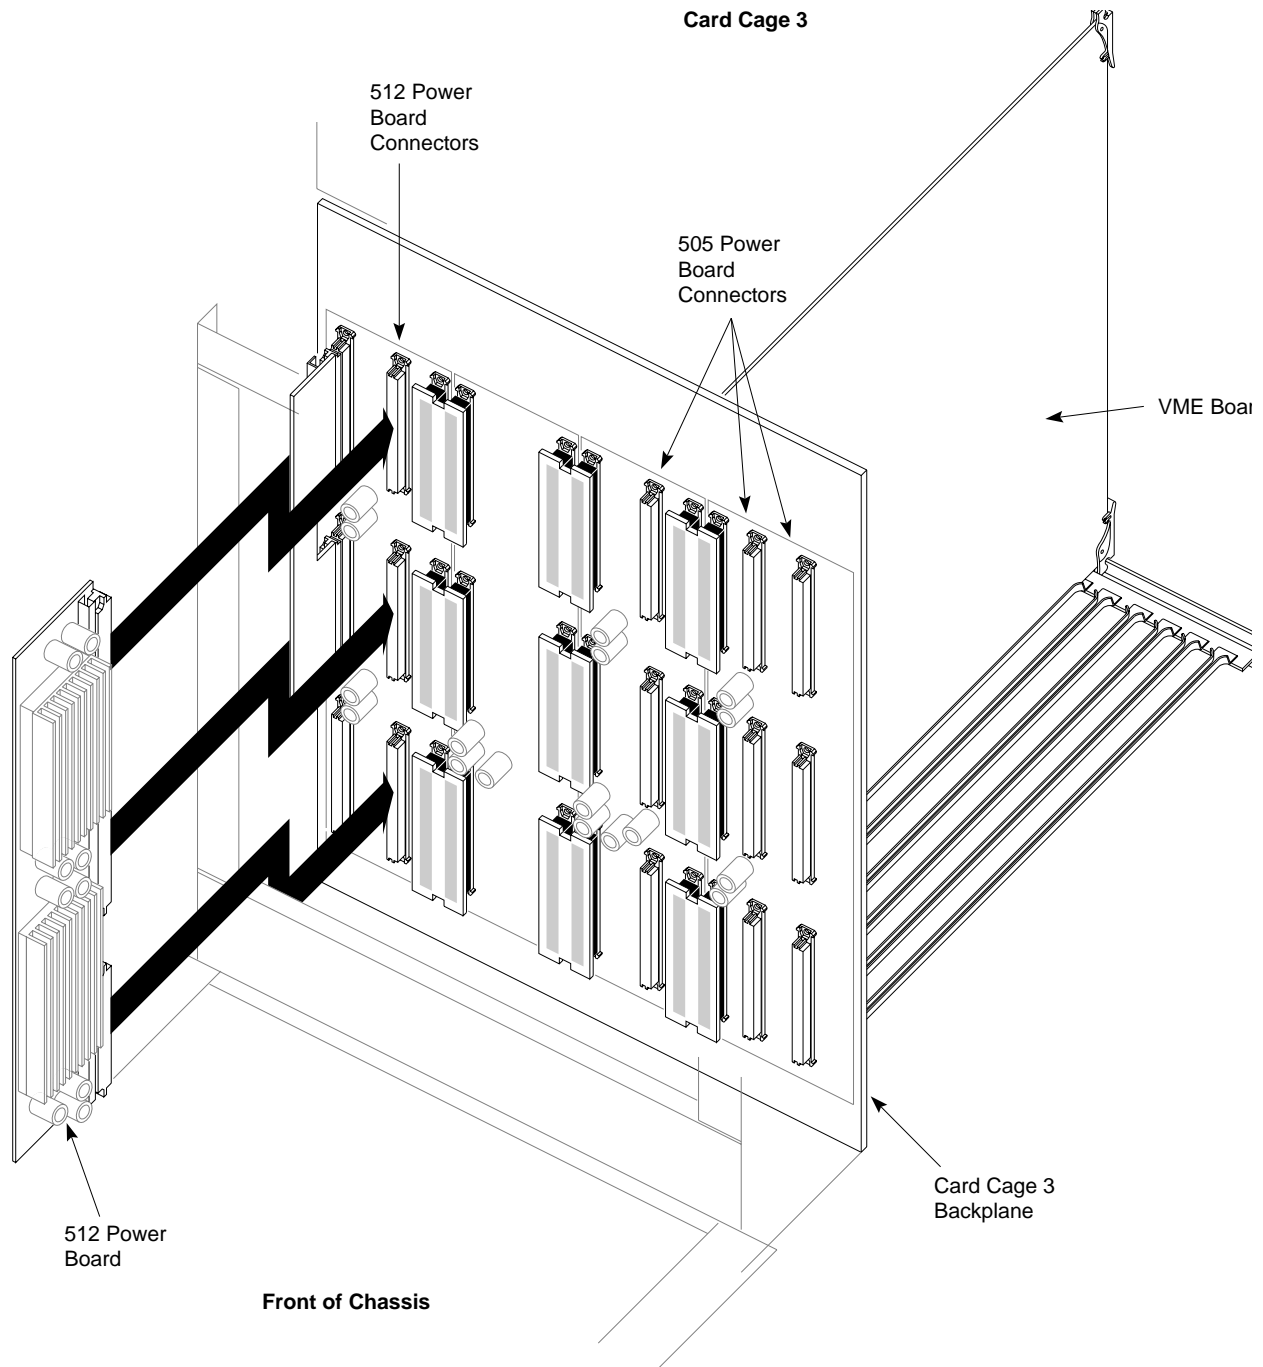

Figure 3-68 Power Board Installation
6. Working from the front of the chassis, configure the Cardcage 3 backplane for three VMEbuses by installing the jumper and terminator boards in the locations called out in Figure 3-68.